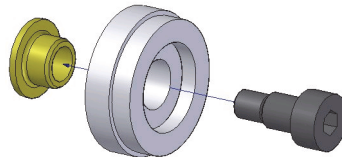

Figure 3-5 Idler-wheel assembly detail
- Press the plastic bushing (spacer) into the magnetized wheel, then slide the shaft screw through the wheel from the other side (see Figure 3-5 on page 25).